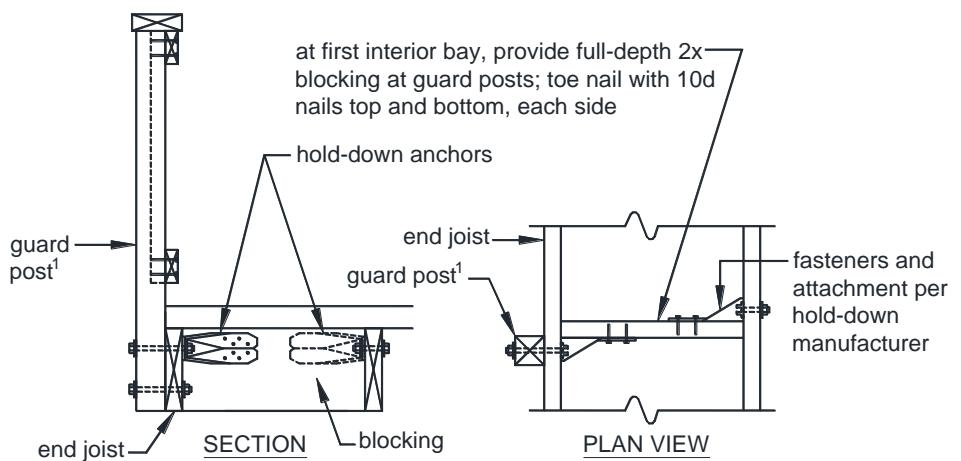
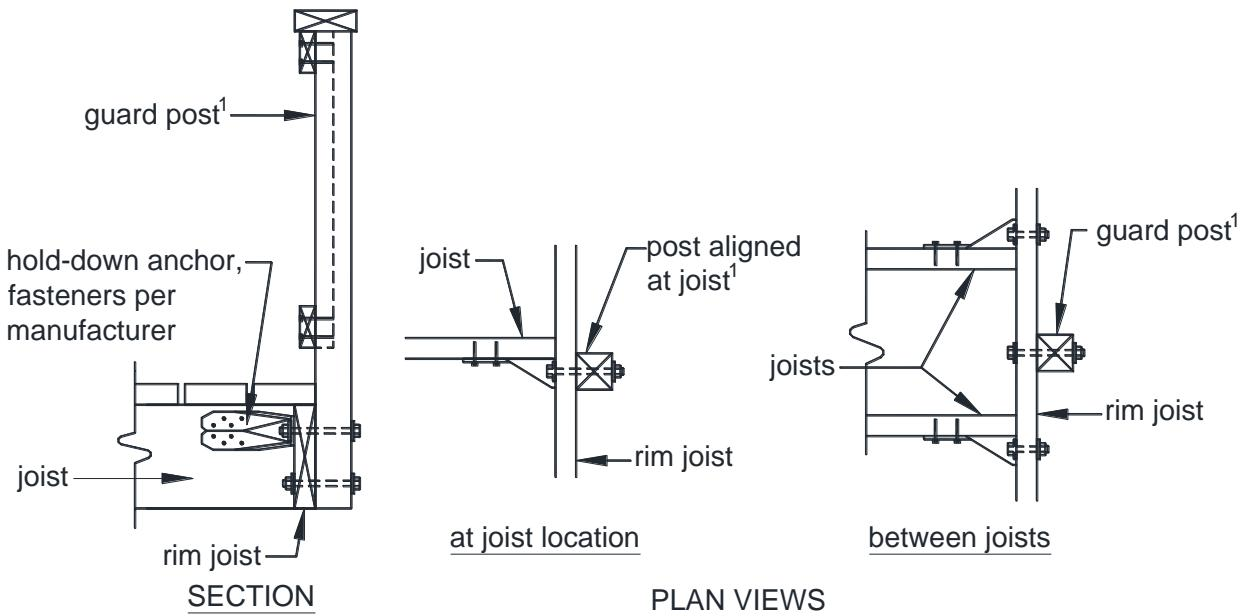

FIGURE 37: GUARD POST-TO-END JOIST
FIGURE 38: GUARD POST-TO-RIM JOIST
- Hold-down anchors, as shown in FIGURE 37 and FIGURE 38, shall be used to attach the guard post to the end joist and rim joist, respectively.